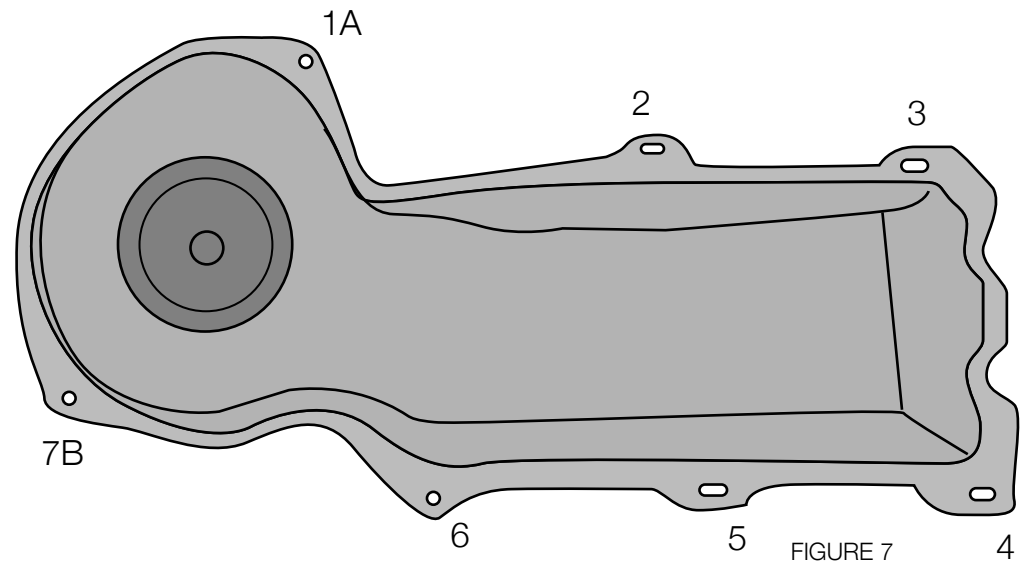

FIGURE 7
Located on the engine side of the firewall, remove seven (7) bolts around the perimeter of the heater case housing (see Figure 7). Remove the housing (Discard).